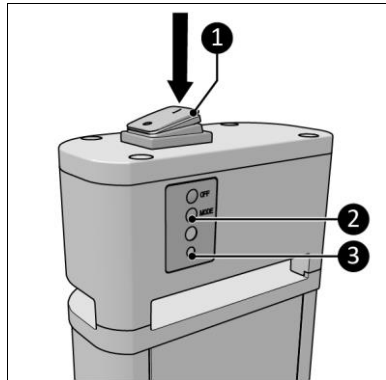

Figure 10
1. Press the ON/OFF switch (Figure 10, pos. 1).
2. The light indicator (Figure 10, pos. 3) starts to flash.
3. Press the MODE button on the control panel (Figure 10, pos. 2) or on the remote control (Figure 5, pos. 2) until the desired setting is reached:
2. The light indicator starts to flash (Figure 10, pos. 3).